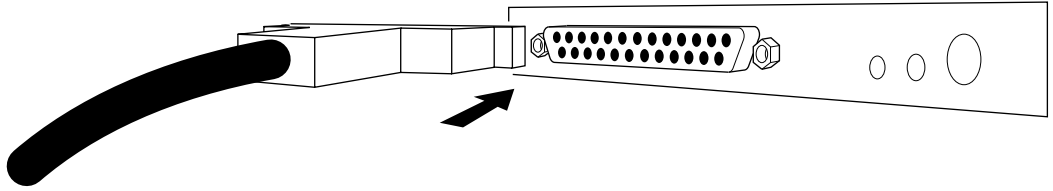

Figure 2-5 HSS V.35 or RS-232 Cable Connection to 25-Pin Connector Port
- a Connect the appropriate cable from the modem or serial device to the HSS V.35 module connector (Figure 2-5).